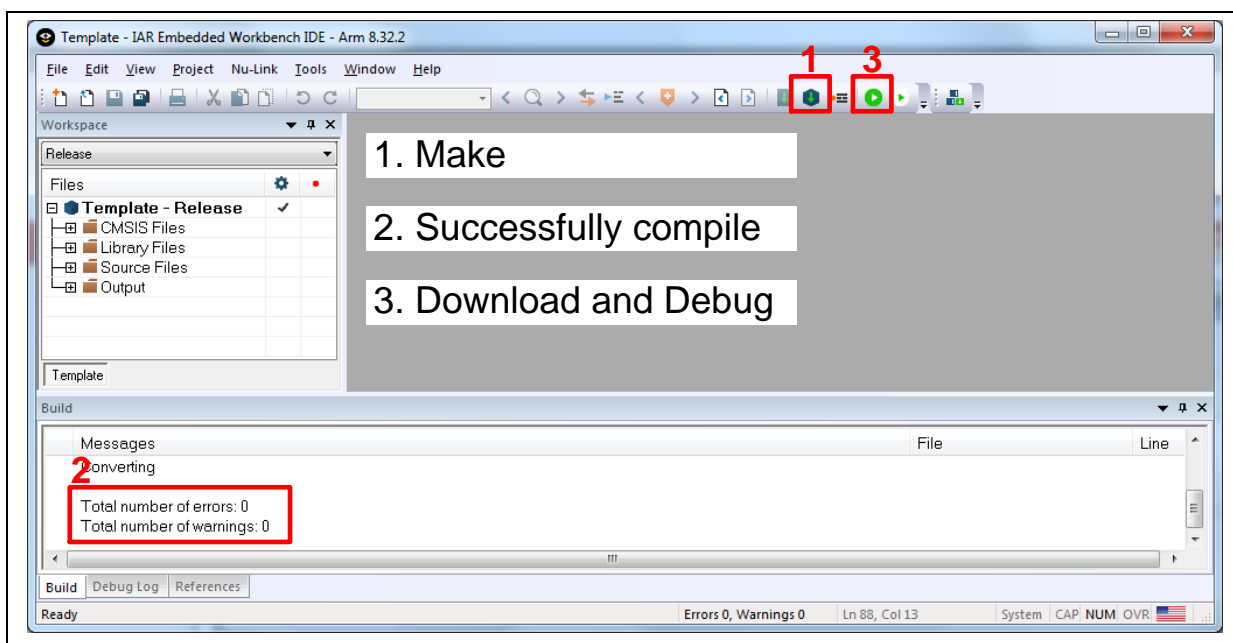

Figure 3-16 Compile and Download the Project
3. Make the target file as shown in Figure 3-16. After successfully compiling the project, download code to the Flash memory and enter debug mode.